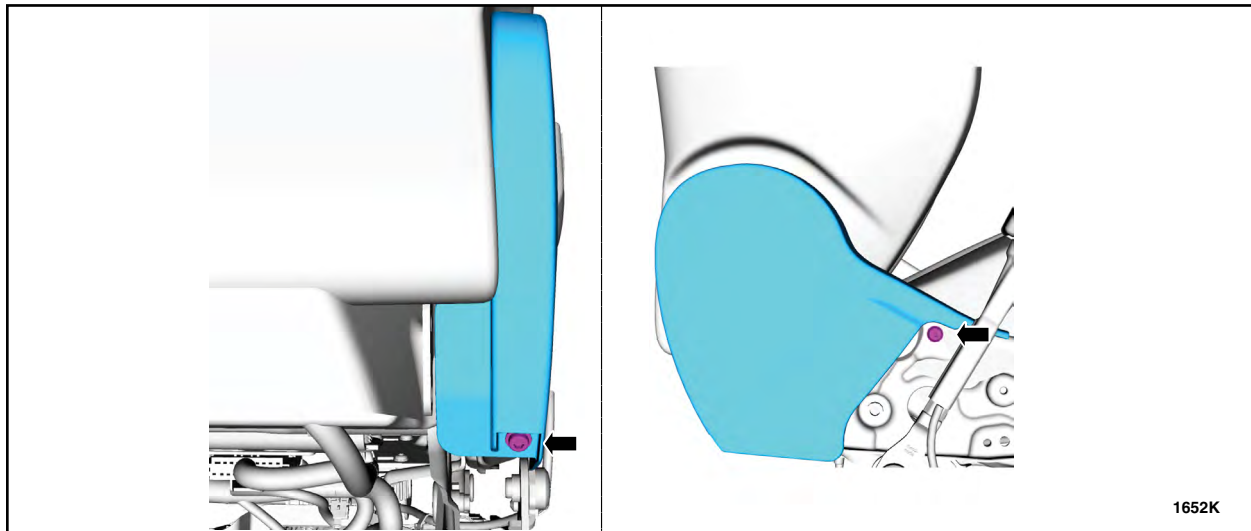

FIGURE 16
7. Remove the two screws and the inboard recline cover. See Figure 16.